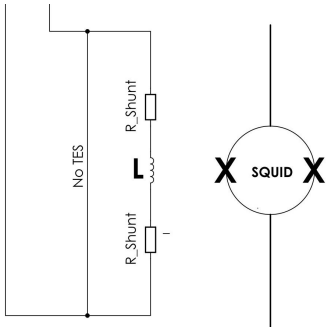

Figure 2. Circuit connected to the Shunt resistances, without a detector
- A SQUID connected to the breakout box but not to a detector (see Figure 2), also referred to a Shunt-shortened circuit.